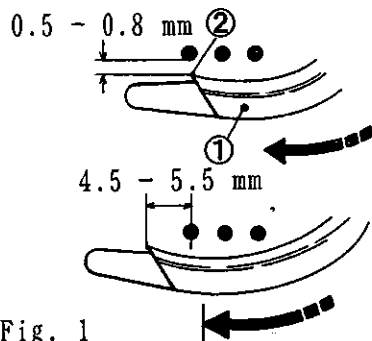
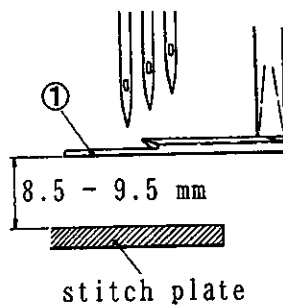
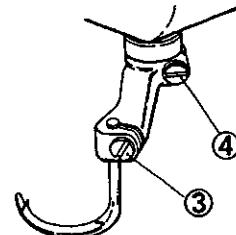

Fig. 1
Fig. 2
Fig. 3
- (1) Loosen the screws ③ and ④ to make a distance of 0.5 mm - 0.8 mm between the left needle and the hook ② of the spreader ①. (Fig. 3, Fig. 1)
- (2) When reaching the spreader ① to the extreme left, make a distance of 4.5 mm - 5.5 mm from the center of the left needle to the hook ② and tighten the screw ④. (Fig. 1, Fig. 3)
- (3) Make a height adjustment of 8.5 mm - 9.5 mm from the stitch plate to the spreader ① and tighten the screw ③. (Fig. 2, Fig. 3)